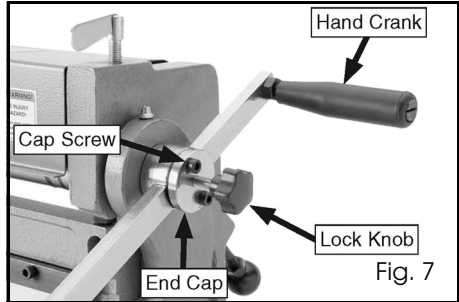

Fig. 7
1. Remove one of the cap screws on the hand crank hub, rotate the end cap out of the way, then insert the hand crank into the slot (see Figure 7).